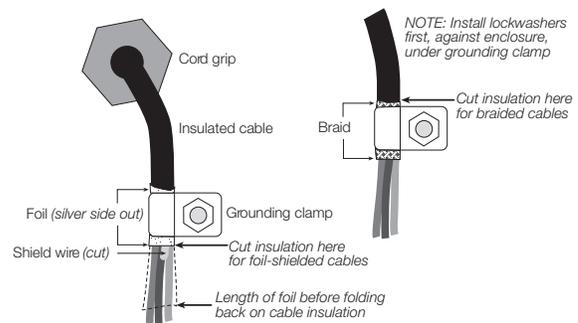

Figure 2-1. Grounding Cables
- Foil shielded cables** – strip insulation and foil from cable 1/2 inch (13 mm) past the grounding clamp (see Figure 2-1). Fold the foil shield back onto the cable where it passes through the clamp. Ensure silver (conductive) side of foil is outward to contact with the grounding clamp.
- Braided shielded cables** – strip cable insulation and shield to just past the clamp. Strip another 1/2 inch (15 mm) of insulation to expose the shield where it passes through the clamp (see Figure 2-1).
- Route stripped cables through cord grips and clamps. Ensure shields contact clamps as shown in Figure 2-1.